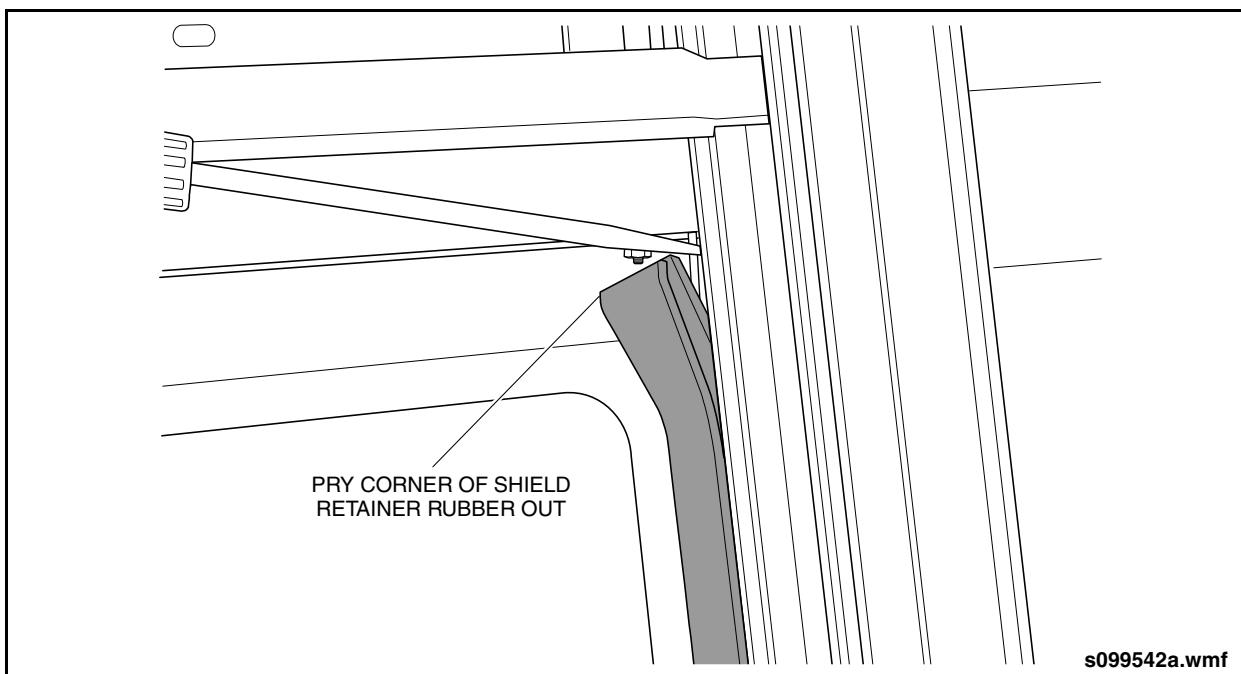

Fig. 14-28: Shield Retainer Rubber Removal
1. At one of the corners, insert a small pick or screwdriver and remove from groove. See "Fig. 14-28: Shield Retainer Rubber Removal" on page 32.